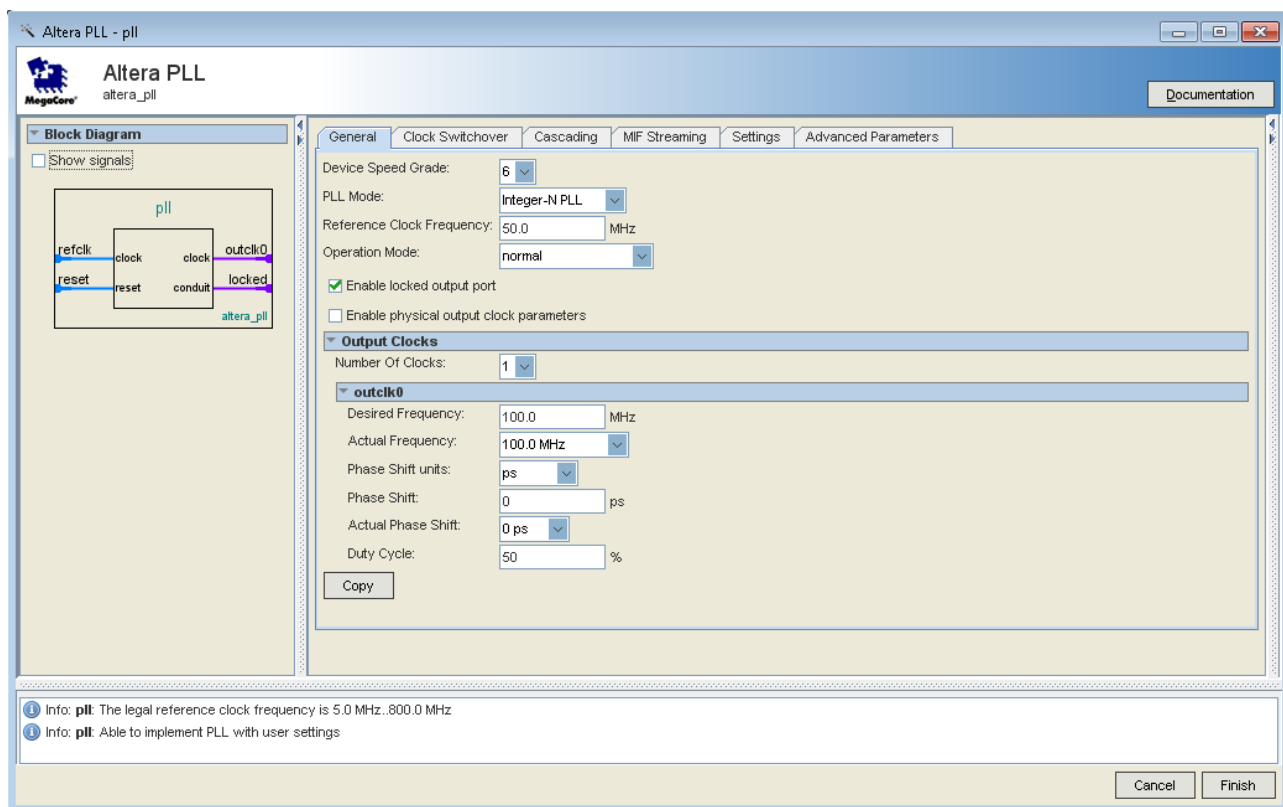

Figure 3-10 MegaWizard Plug-In Manager Selections
5. In the MegaWizard Plug-In Manager window, make the following selections (see Figure 3-10).